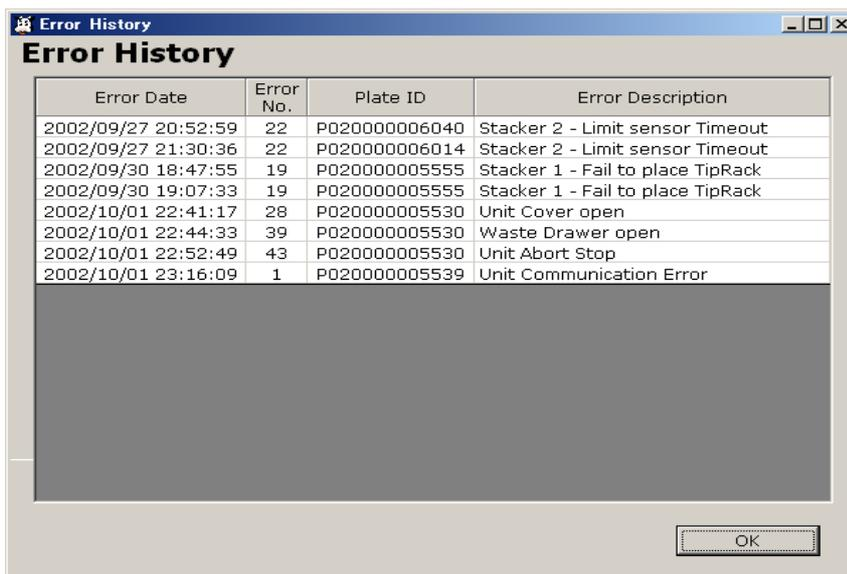

Fig. 11.5.1-1 : Error history
(1) Click "Event" ->"Error History". The 'Error History' screen comes up (Fig. 11.5.1-1).